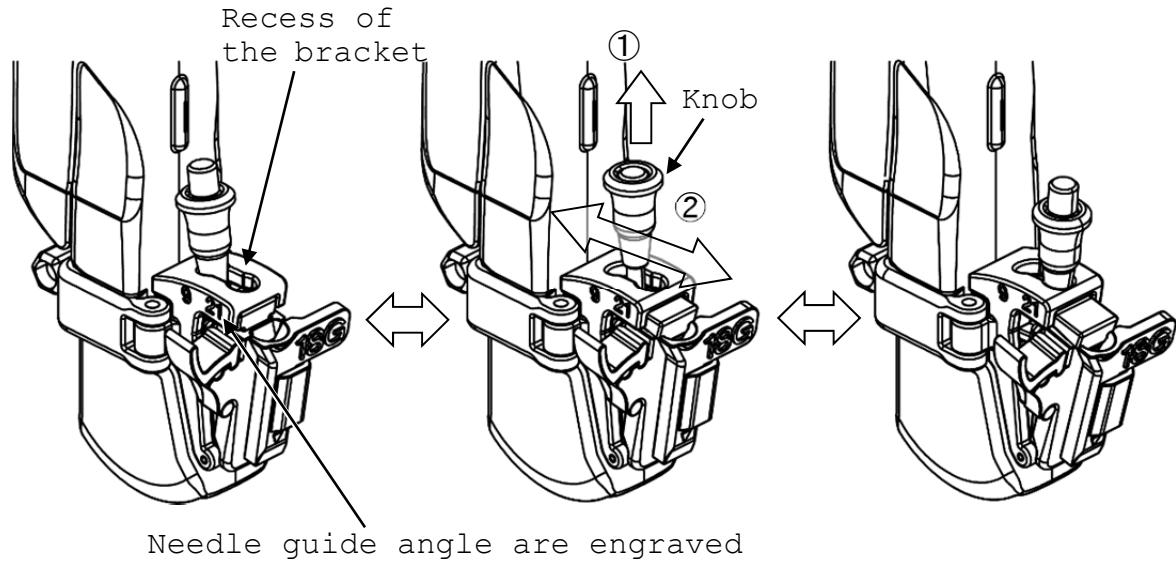

Fig. 17 Setting the needle guide angle
Pull the knob (1) and release it into the recess of appropriate angle of the bracket (2). Needle guide angles are engraved on the bracket. (See Fig. 17)